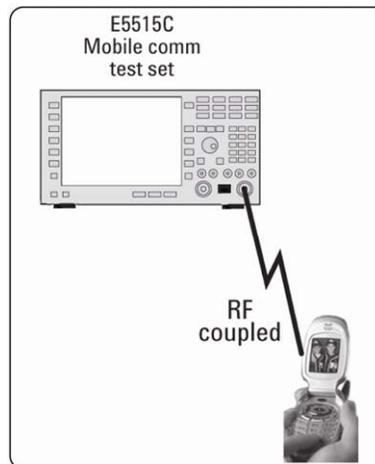
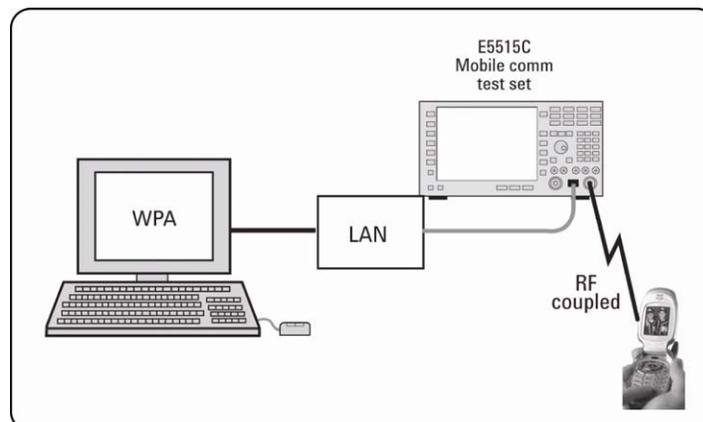

Figure 7. Loopback video call hardware configuration
Figure 8. Loopback video call hardware configuration for protocol logging
To perform video loopback testing, the basic hardware configuration is illustrated in Figure 7. If protocol logging is desired, the hardware should be configured as noted in Figure 8
- **IP** – connects the top of the L2R/RLP layer to a PPP/IP layer that is fed to the test set's LAN PORT. As Figure 7 illustrates, the PPP layer operates in asynchronous framing mode.